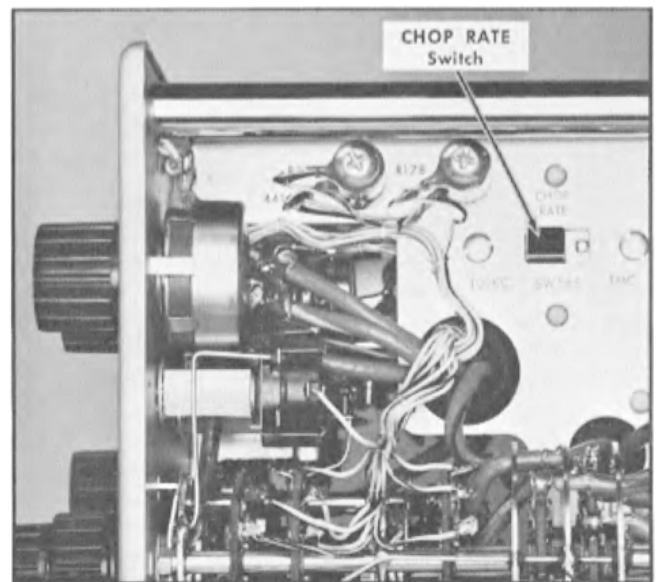

Fig. 2-1. Right side front portion view of the Type 82 showing the location of the CHOP RATE switch.
CHOP RATE (see Fig. 2-1) Two-position slide switch provides the following chopped-mode switching-rate choices: 100 kc or 1 mc.
1. Set the internal CHOP RATE slide switch (see Fig. 2-1) to the 100 KC position.